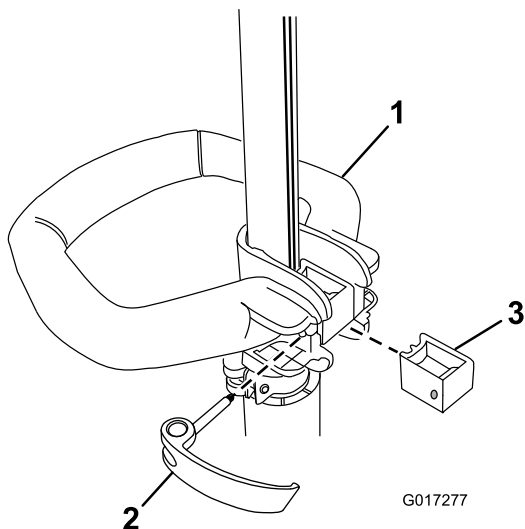

Figure 1
1. Position the auxiliary handle on the shaft of the trimmer with the smooth surface facing the operator (Figure 1).
3. Slide the latch from the left through the handle and brace, and tighten the latch screw with a Phillips screwdriver (Figure 1).
2. Slide the brace into the auxiliary handle so that the brace rests in the groove along the shaft (Figure 1).